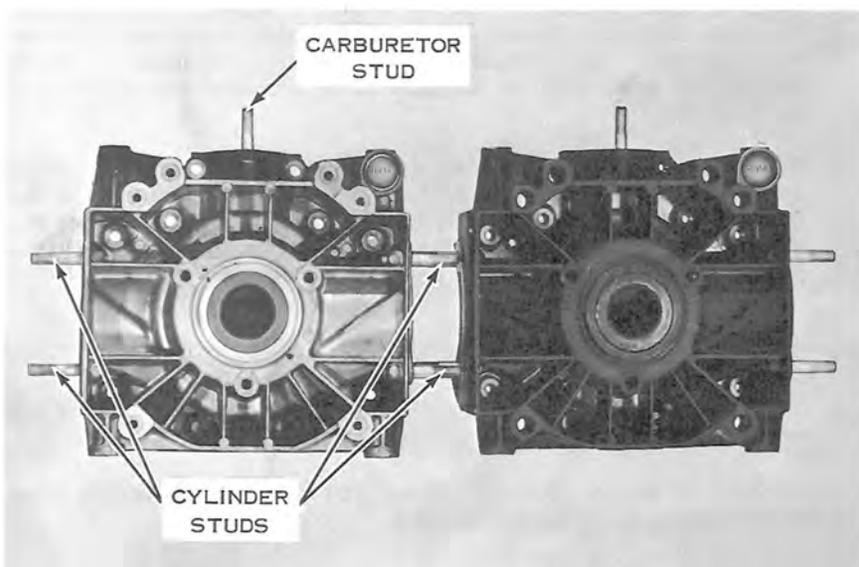

Figure 8-4
- d. Remove screws from crankcase halves, and drive out taper pins toward flywheel side. Tap crankcase halves with rawhide mallet to break seal, and separate crankcase halves (see Figure 8-4).